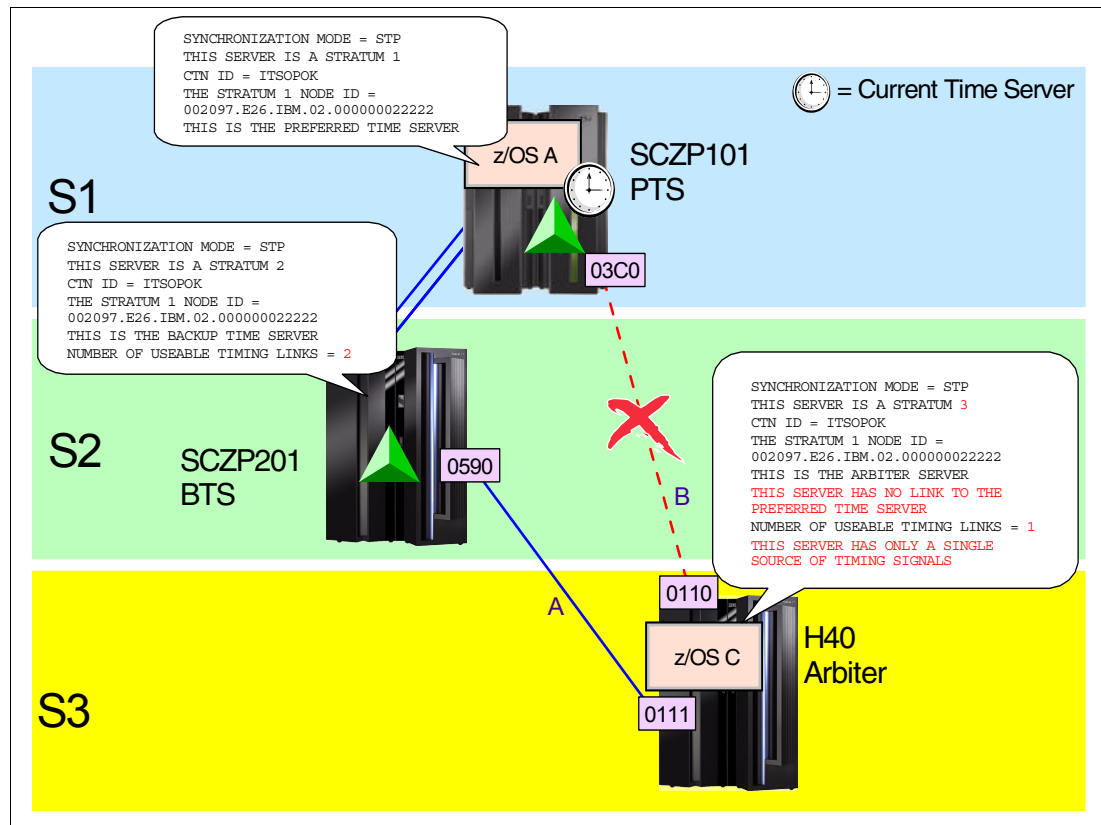

Figure 7-15 Example configuration - After removal of one link
Figure 7-15 shows the resulting configuration. Figure 7-15 also shows the output of a DISPLAY ETR command from a z/OS image on each server, following the CHPID reconfiguration.
- In Figure 7-15 on page 255 on H40, the DISPLAY ETR information about the Z/OS image identifies a single point of failure:
- ▶ The DISPLAY ETR command output provides information only for PCHIDs that are input to the server hosting the z/OS image. It does not consider coupling links to dependent systems. For example, in the configuration shown in Figure 7-15 on page 255: